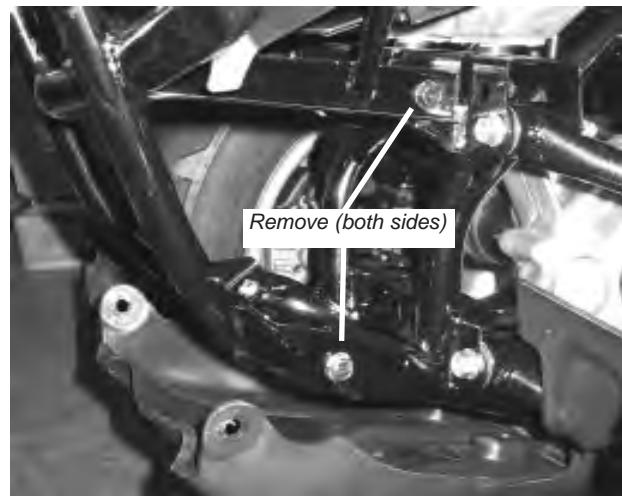

Figure 6 Remove Bumper Bolts
6. Remove the four remaining bumper bolts that attach the bumper to the vehicle frame, figure 6. Remove the bumper from the vehicle at this time.